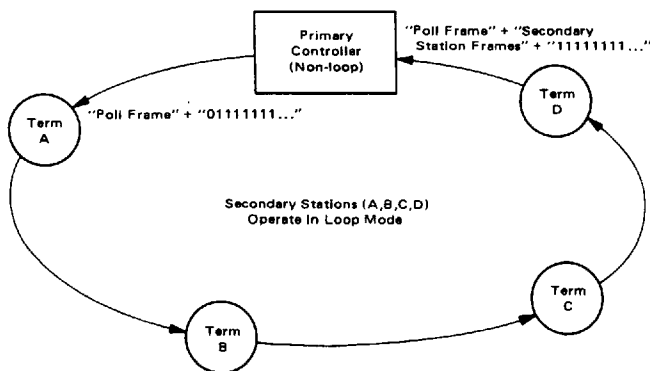
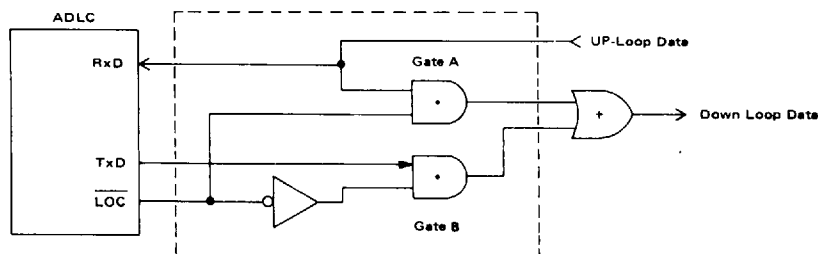

Figure 9a : Typical loop configuration.
Figure 9b : Example of external loop logic.
The ADLC in the loop mode, not only performs the transmission and receiving of data frames in the manner previously described, but also has additional features for gaining and relinquishing loop control. In Figure 9a, a configuration is shown which depicts loop mode operation. The system configuration shows a primary station and several secondary stations. The loop is always under control of the primary station. When the primary wants to receive data, it transmits a poll sequence and allows frame transmission to secondary stations on the loop. Each secondary is in series and adds one bit of delay to the loop. Secondary A in the figure receives data from the primary via its Rx data input, delays the data 1 bit, and transmits it to secondary B via its Tx data output. Secondaries B, C and D operate in a similar manner. Therefore, data passes through each secondary and is received back by the primary controller.
(1) Go On-Loop - When the ADLC powers up, the terminal station will be off line. The first task is to become an active terminal on the loop. The ADLC must be connected to a Loop Link via an external switch as shown in Figure 9a. After a hardware reset, the ADLC LOC/DTR output will be in the high state and the up-loop receive data repeated through gate A to the down loop stations. Any up-loop transmission will be received by the ADLC. The loop mode/non-loop mode control bit (bit 5 in control register 3) must be set to place the ADLC in the loop mode. The ADLC now monitors its Rx data input for a string of seven consecutive «1's» which will allow a station to go on line. The loop operation may be monitored by use of the loop status bit in status register 1. After power up and reset, this bit is a zero. When seven consecutive «1's» are received by the ADLC the LOC/DTR output will go to a low level, disabling gate A (refer to Figure 9b), enabling gate B and connecting the ADLC Tx Data output to the down loop stations. The up loop data is now repeated to the down loop stations via the ADLC. A 1-bit delay is inserted in the data (in NRZI mode, there will be a 2-bit delay) as it circulates through the ADLC. The ADLC is now on-line and the loop status bit in status register 1 will be at a one.
(2) Go Active after Poll - The receiver section will monitor the up-link data for a general or addressed poll command and the Tx FIFO should be loaded with data so that when the go ahead sequence of a zero followed by seven «1's» (01111111...) is detected, transmission can be initiated immediately. When the polling frame is detected, the go-active-on-poll control bit must be set (bit 6 in control register 3). A maximum of seven bit times are available to set this control bit after the closing flag of the poll. When the Go-Ahead is detected by the receiver, the ADLC will automatically change the seventh one to a zero so that the repeated sequence out gate B in Figure 9b is now an opening flag sequence (011111110). Transmission now continues from the Tx FIFO with data (address, control, etc.) as previously described. When the ADLC has gone active-on-poll, the loop status bit in status register 1 will go to a zero. The receiver searches for a flag, which indicates that the primary station is interrupting the current operation.
(3) Go Inactive when On-Loop - The Go-Active-On-Poll control bit may be RESET at any time during transmission. When the frame is complete (the closing flag or abort is transmitted), the loop is automatically released and the station reverts back to being just a 1-bit delay in the loop, repeating up-link data. If the Go-Active-On-Poll control bit is not reset by software and the final frame is transmitted (Flag/Mark Idle bit = 0), then the transmitter will mark idle and will not release the loop to up-loop data. A Tx Abort command would have to be used in this case in order to go inactive when on the loop. Also, if the Tx FIFO was not preloaded with data (address, control, etc.) prior to changing the «Go Ahead Character» to a flag, the ADLC will either transmit flags (active idle character) until data is loaded (when Flag/Mark Idle Control bit is high or will go into an underrun condition and transmit an abort (when Flag/Mark Idle control bit is low). When an abort is transmitted, the Go-Active-On-Poll control bit is reset automatically and the ADLC reverts to its repeating mode, (Tx D = delayed Rx D). When the ADLC transmitter lets go of the loop, the loop status bit will return to a «1», indicating normal on-loop retransmission of up-loop data.
(4) Go Off-Loop - The ADLC can drop off the loop (go off-line) similar to the way it went on-line. When the loop on-line control bit is reset the ADLC receiver section looks for eight successive «1's» before allowing the LOC/DTR output to return high (the inactive state). Gate A in Figure 9b will be enabled and gate B disabled allowing the loop to maintain continuity without disturbance. The loop status bit will show an off-line condition (logical zero).